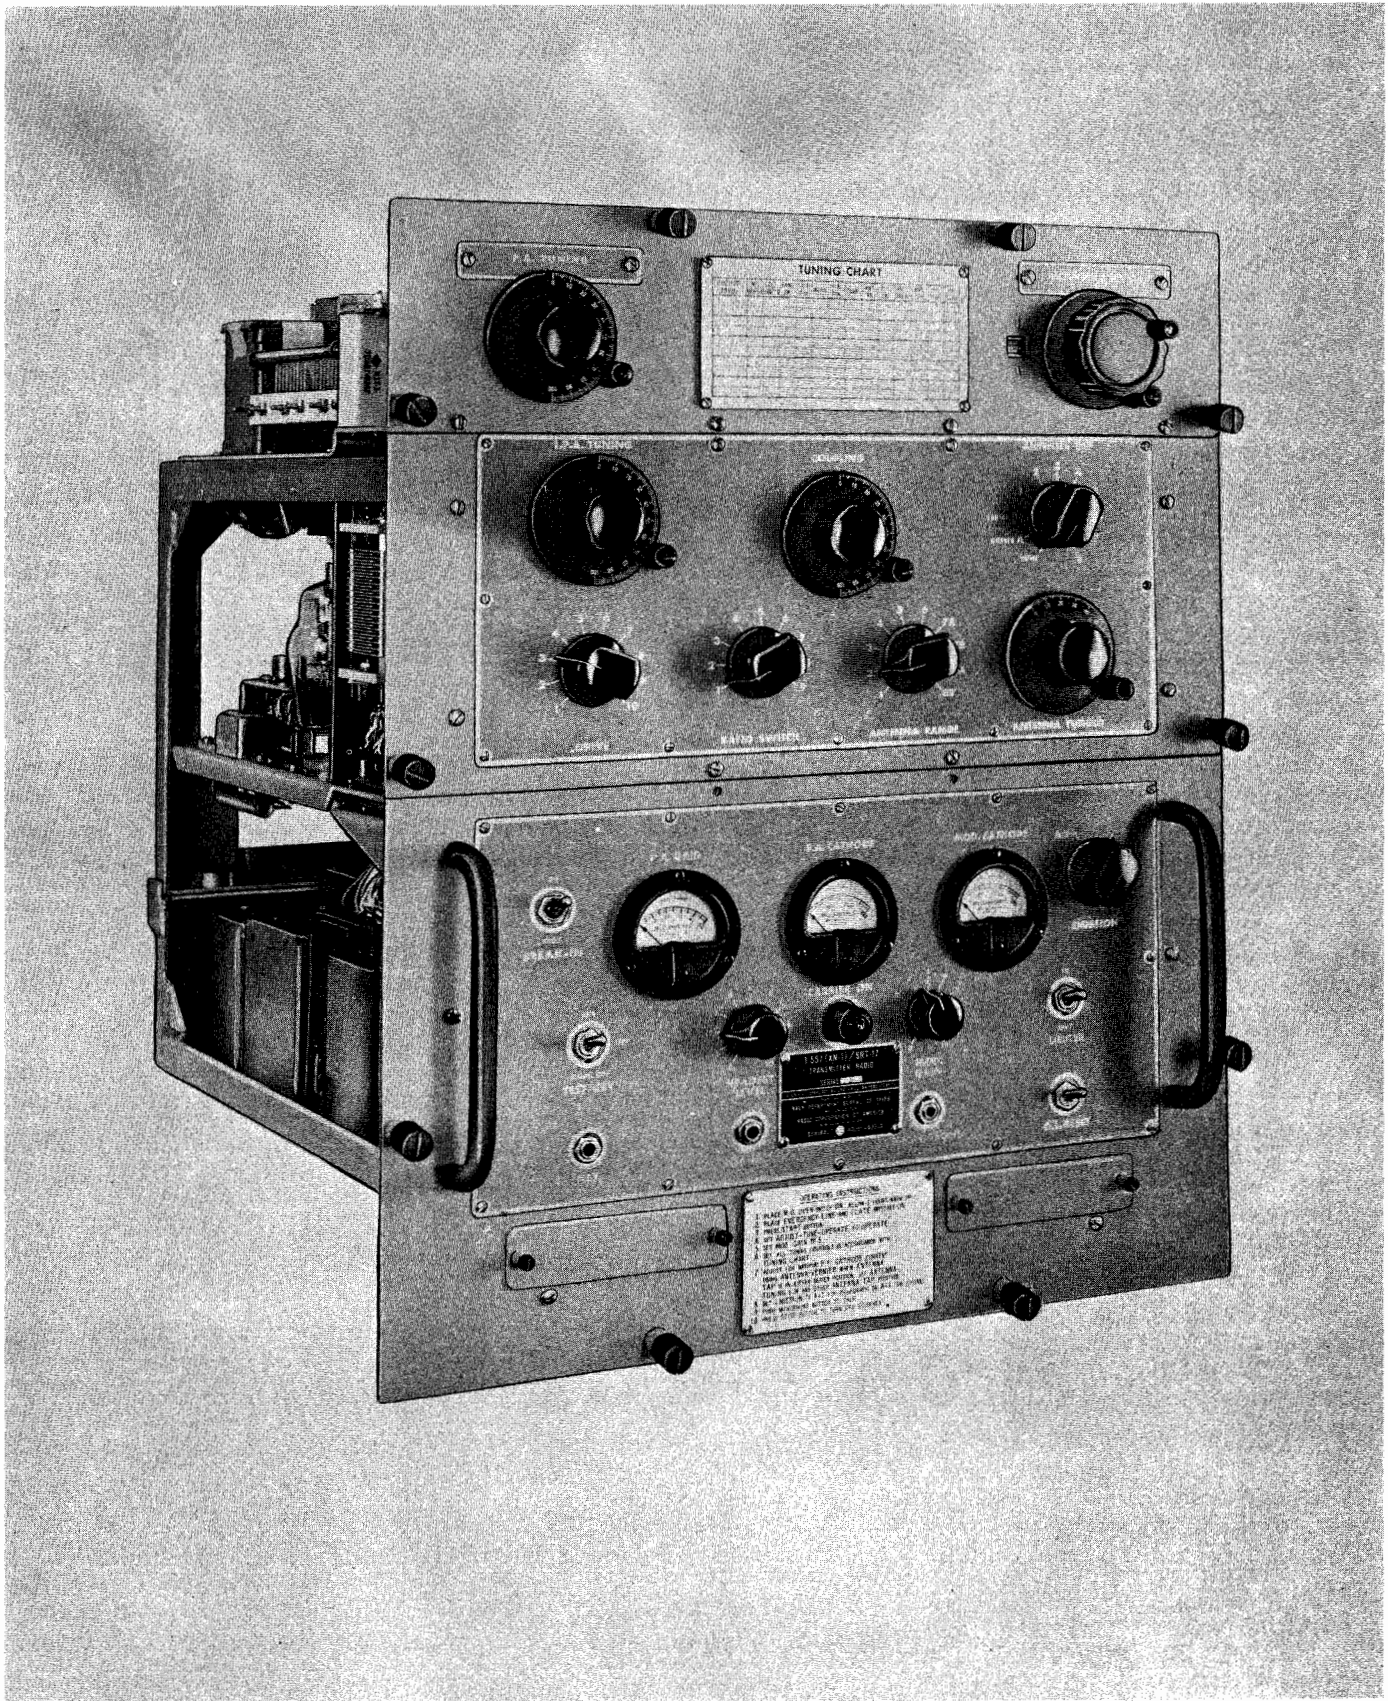

Figure 1-2. Radio Transmitter T-557(XN-1)/SRT-17
a. RADIO TRANSMITTER T-557(XN-1)/SRT-17 (see figure 1-2).